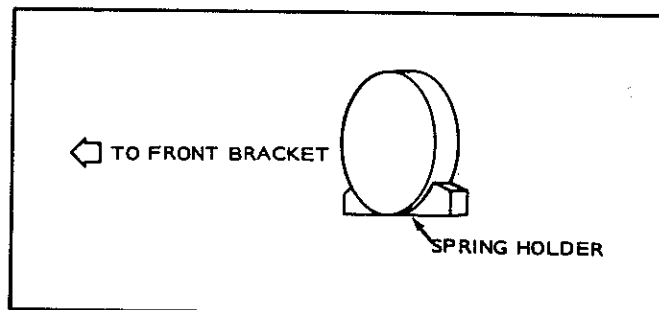

FIGURE 18-39. LEVER SPRING POSITION
5. Place the lever spring and the spring holder into the front bracket with the direction shown in Figure 18-39.